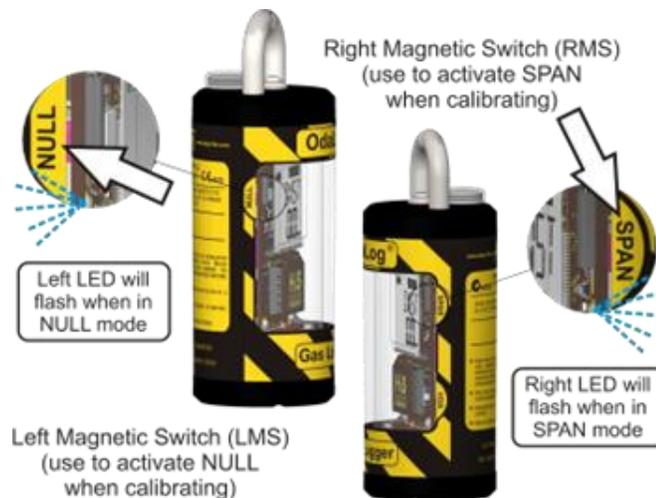

Figure 18: Magnetic Switch (RMS/LMS, SPAN/NULL)
- ⊙ Using the Allen Tool [Part No. 11-0000], remove the three retaining screws from the filter housing assembly (see Figure 18).